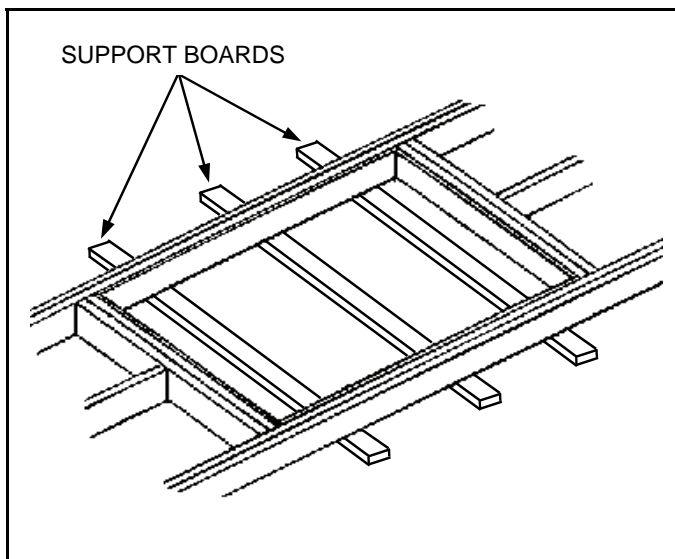

Figure 4
2. Nail 3 boards to bottom of opening as temporary supports for the stair. Figure 4